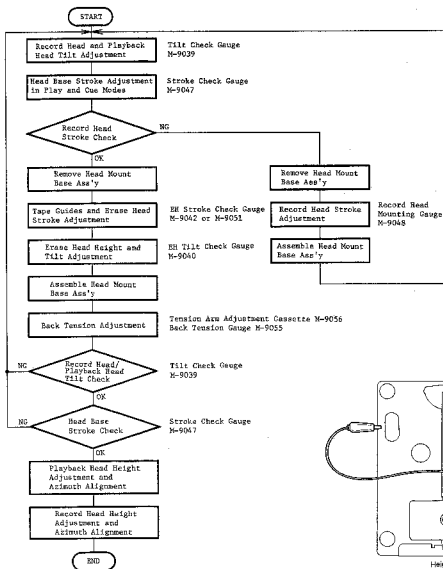

Fig. 4.4
Note: On items 4.3-4.9, please refer to Fig. 4.4 flow chart.